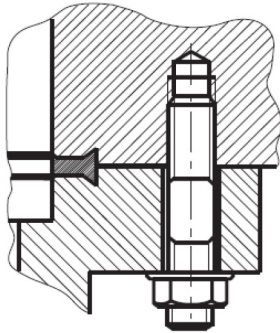

Figure 6.10 CF flange and CF flange blind hole connection
- c. As shown in Figure 6.10, use the corresponding number of hexagonal bolts (or studs) and nuts to connect the flange;